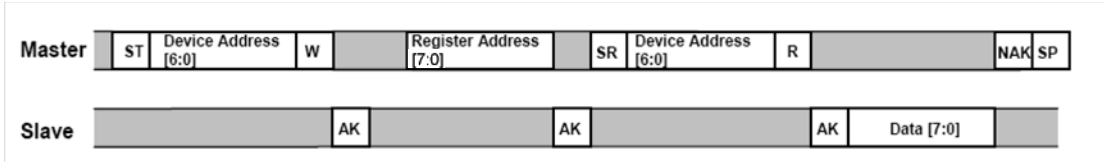

Figure 7. Single Byte Read - The Master is reading one address from the MMA7456L
The MMA7456L has a 10-bit ADC that can sample, convert and return sensor data on request. The transmission of an 8-bit command begins on the falling edge of SCL. After the eight clock cycles are used to send the command, note that the data returned is sent with the MSB first once the data is received. Figure 7 shows the timing diagram for the accelerometer 8-bit I2C read operation. The Master (or MCU) transmits a start condition (ST) to the MMA7456L, slave address (\$1D), with the R/W bit set to "0" for a write, and the MMA7456L sends an acknowledgement. Then the Master (or MCU) transmits the 10-bit address of the register to read and the MMA7456L sends an acknowledgement. The Master (or MCU) transmits a repeated start condition (SR) and then addresses the MMA7456L (\$1D) with the R/W bit set to "1" for a read from the previously selected register. The Slave then acknowledges and transmits the data from the requested register. The Master does not acknowledge (NAK) it received the transmitted data, but transmits a stop condition to end the data transfer.